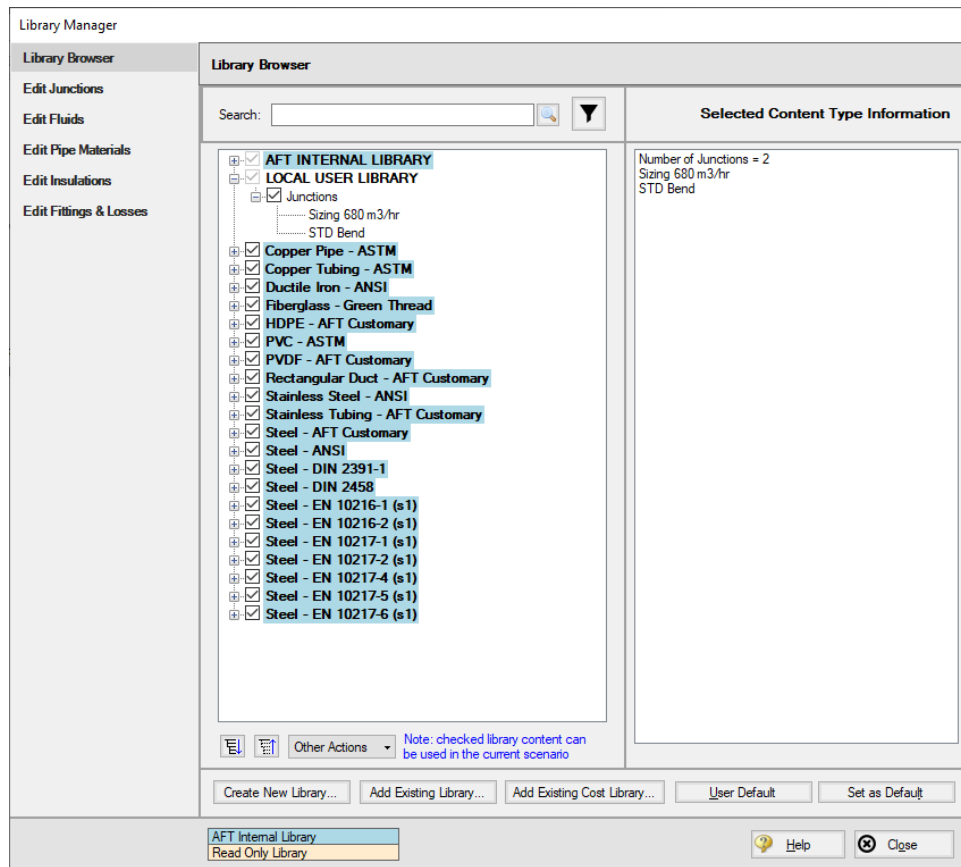

Figure 1: Edit Library tab in the Library Manager with a new external library created for the junctions to be added to
4. In the LOCAL USER LIBRARY, expand the Junctions option. The window should appear similar to Figure 1.